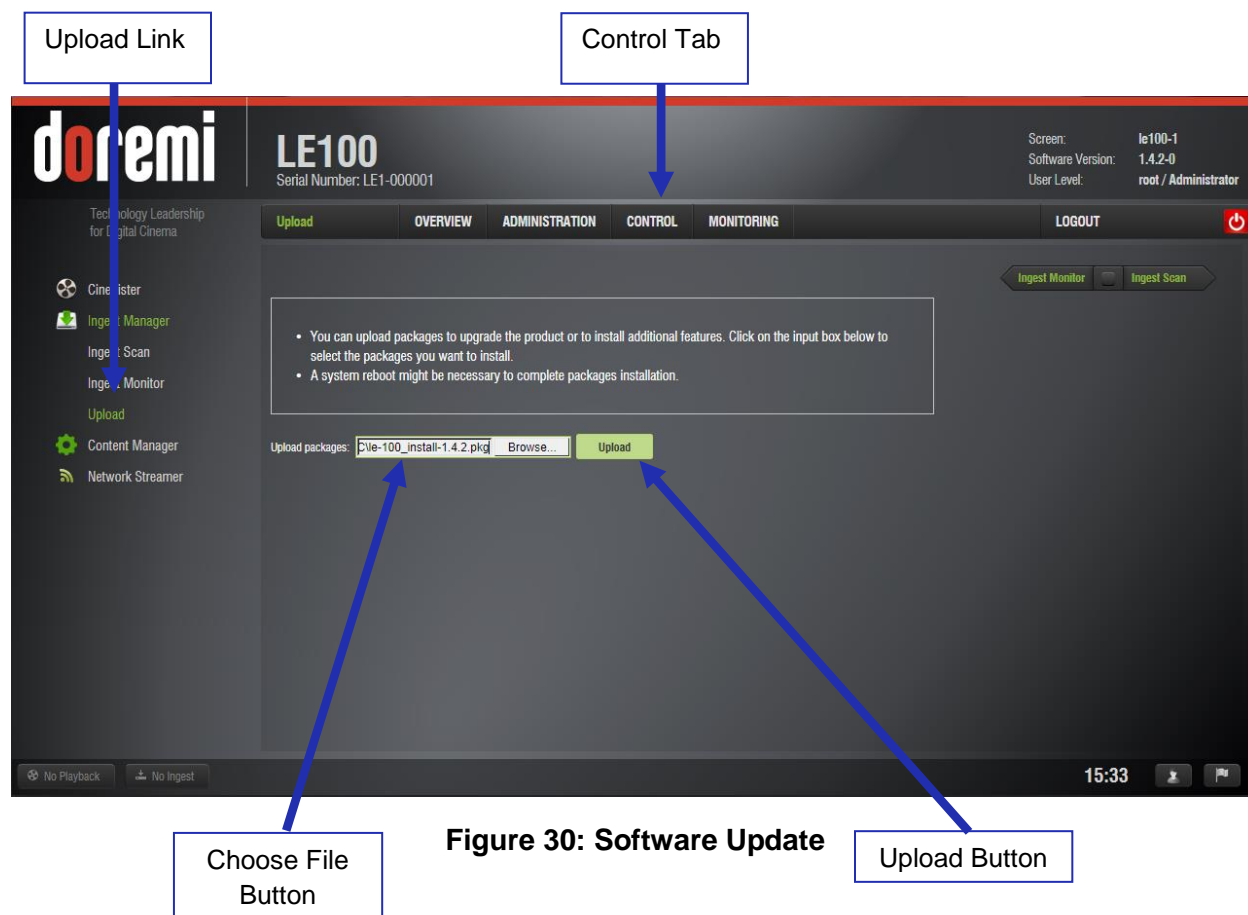

Figure 30: Software Update
- Click on the Ingest Manager and then Upload link on the left side of the GUI (see Figure 30).